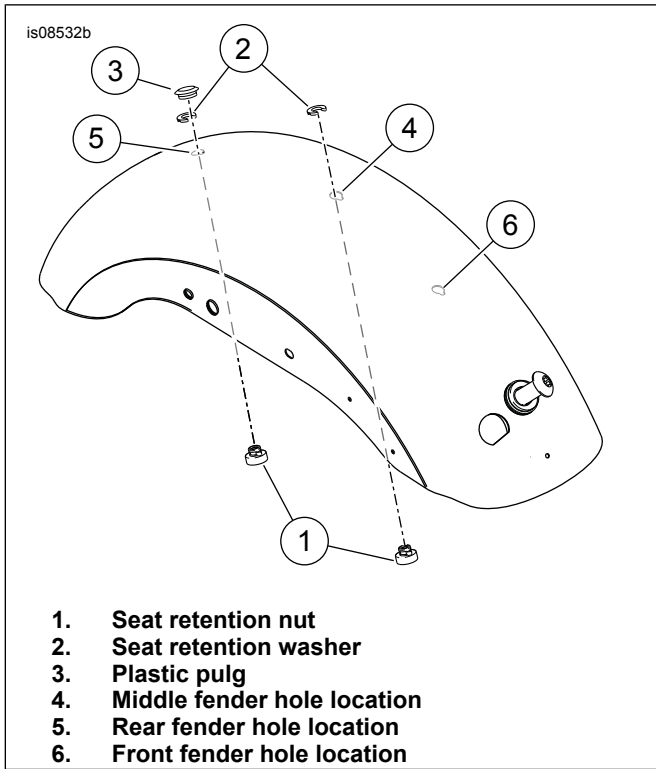

Figure 2. Seat Retention Nut and Washer Locations
2. See Figure 2. Remove the plastic plug (3) from the rear hole location in the fender.
3. Install retention nut (1) and washer (2) to the rear location on the fender where the plug was removed.